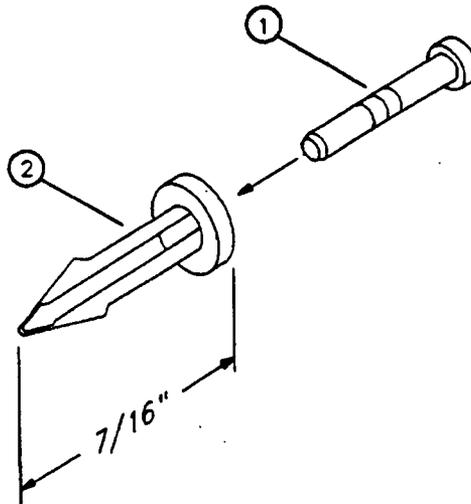

Figure 3-38. BT101 Battery Replacement
2. Remove the center pin (1) from the fastener (2) that secure the nylon insulator to the A16 assembly. See Figure 3-38.